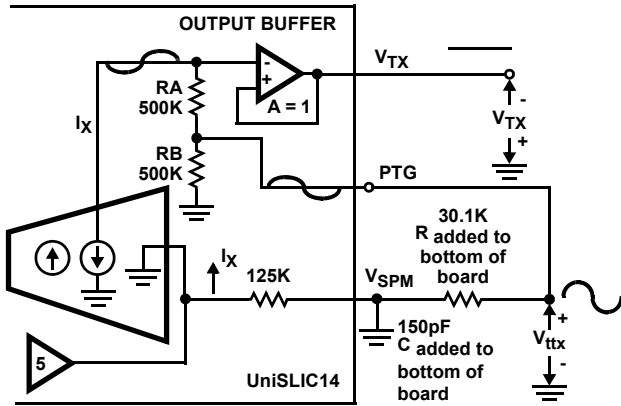

FIGURE 23. PULSE METERING WITH TRANSHYBRID BALANCE
Adequate signal gain and current drive to the subscriber's metering equipment is made easier by the network shown in Figure 23. The pulse metering signal is supplied to a dedicated high impedance input pin called SPM. The circuit in Figure 23 shows the connection of a network that sets the 2-wire impedance (ZTR), at the pulse metering frequencies, to be approximately 200Ω. If the line impedance (ZL) is equal to 200Ω at the pulse metering frequencies, then the 4-Wire to 2-wire gain (VTR/SPM) is equal 4. Thereby lowering the input signal requirements of the pulse metering signal.
The amplitude of the returning pulse metering signal is often very large and could easily over drive the input to the CODEC/Filter. By using the same method discussed in section "Transhybrid Balance", most if not all of the pulse metering signal can be canceled out before it reaches the input to the CODEC/Filter. This connection is shown in Figure 23.